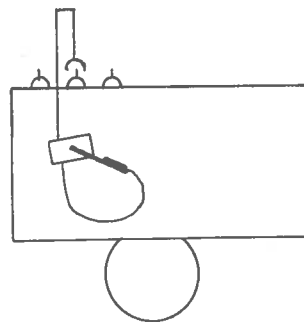
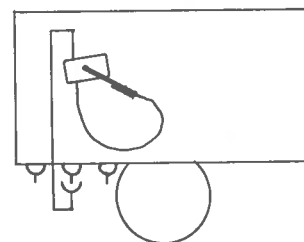

Fig.1a - Good layout of mains cords
Fig.1b - Poor layout of mains cords
Relating to **f.**, socket outlets should preferably be sited at the back of workbenches so that flexible cords run to appliances from the back (Fig.1a), not trail across benchtops from the front (Fig.1b). If it is necessary to use this latter configuration cords should either be (1) replaced with heat resisting silicone cable, or (2) sheathed in heat resisting p.t.f.e. or glass fibre sleeving. (1) is preferable to (2) since sleeving renders cords inflexible, and glass fibre can irritate sensitive skins.